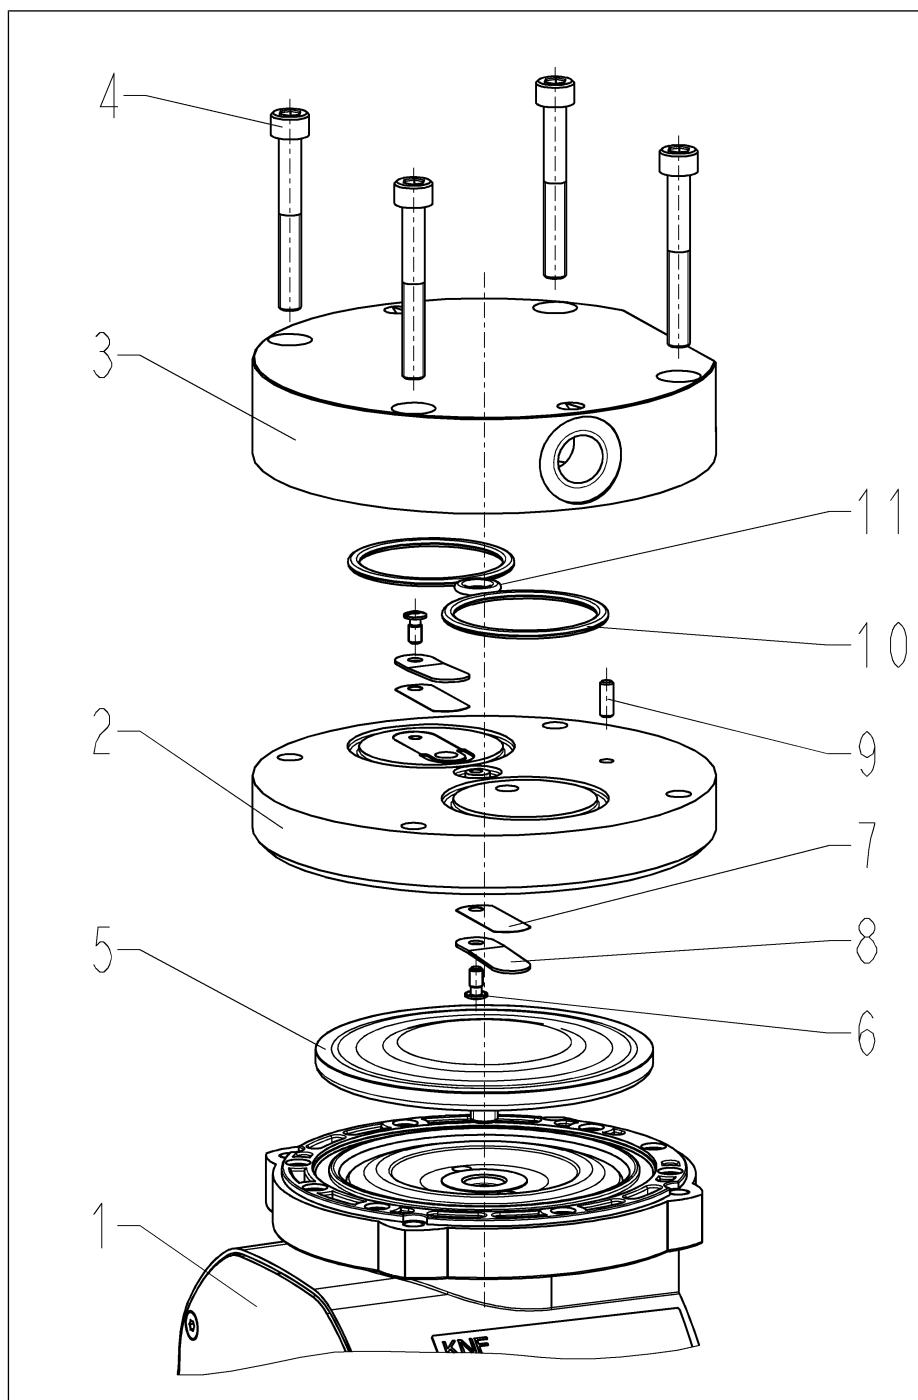

Fig.14 Pump parts
**According to Fig. 14
i The item numbers within the following work instruction refer to Fig. 14.